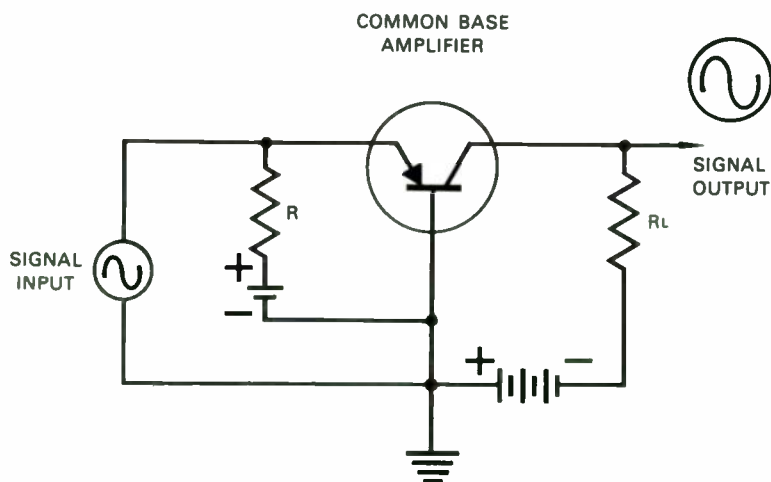

Figure 19 — Common base (grounded base) amplifier.
*Common base configurations* were the earliest used arrangements for amplifiers (Fig. 19). The input signal is injected into the emitter instead of the base, and the output is taken across  $R_L$  in the collector circuit. Common base amplifiers have phenomenal voltage gains, but their current gains are less than unity. They also have very low input impedances.